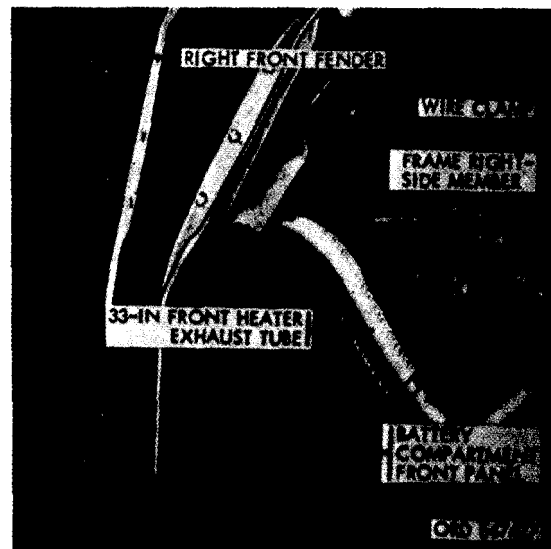
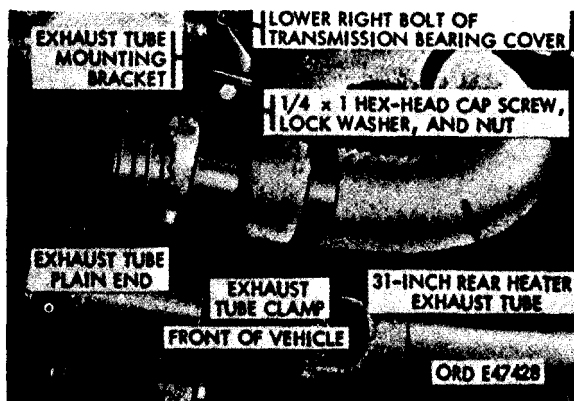

Figure 638. Front heater exhaust tube installed through panel hole
Figure 639. Rear heater exhaust tube installed under transmission housing
- (b) Pass the exhaust tube down and under the frame right side member (fig. 638), insert it into the exhaust tube outlet of oil pan shroud, and secure with a new 1/8 x 3 cotter pin (fig. 637).
(3) Rear heater exhaust tube.
- (a) Remove the exhaust tube mounting bracket from the 31-inch rear heater exhaust tube clamp (J, fig. 625) and install bracket on the lower right bolt of the transmission bearing cover (fig. 639).
mission housing and secure the exhaust tube clamp to the exhaust tube mounting bracket with a 1/4 x 1 hex-head cap screw, lockwasher, and nut (fig. 639).